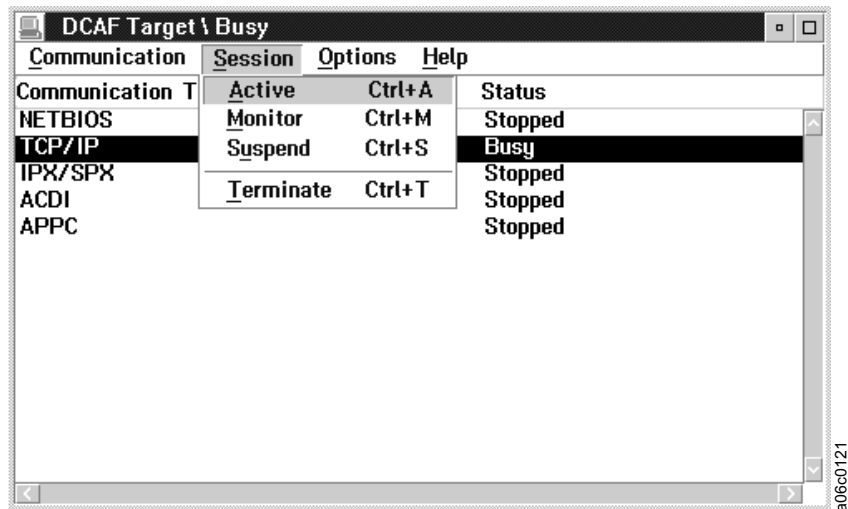

Figure 189. Active Session
3. In the DCAF Target \ Busy window (Figure 189 on page 314), select the Session window, then select the Active or Monitor option.